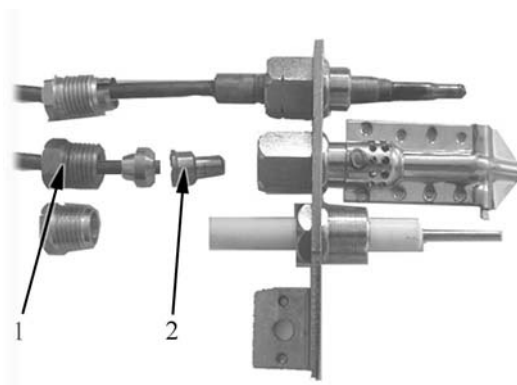

Fig. 8
- Remove the nozzle (item 2 in Fig. 8) and replace it with the appropriate nozzle shown in the table 2 ("Specifications for the burners, nozzles and settings", Pilot flame);